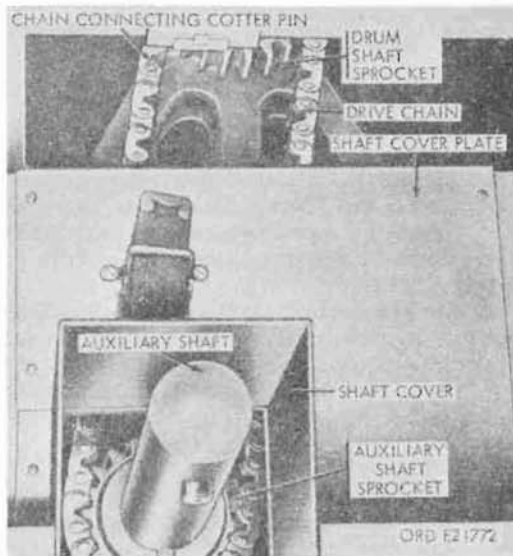

Figure 337. V-17A/MTQ rear winch lower shaft cover and plate, and auxiliary drive chain
with a chain are located in the holders, one between each pair of rear wheels. The roller sheave spindle bars are mounted on brackets in three locations on the truck body, one within the body above the rear winch and two at the rear of the body. A collapsible cable reel is held in stowed position on a holder fastened on the right, within the body. The support legs are secured to the truck by welded mounting brackets and are held in stowed position by chains. The V-17A/MTQ rear winch (fig. 337) is enclosed within the front end of the body and is secured to the truck frame by mounting angles. Both the auxiliary shaft of the winch (mounted to the
a. Rear Winch Cover (Fig. 337)
- (1) Removal. Remove 10 screws holding winch lower shaft cover and cover plate to body, and remove cover and plate. Remove 14 nuts, lockwashers and screws holding winch upper cover side support to inside of body. Remove four nuts, lockwashers, and screws holding winch upper cover front support to body. Remove winch front and upper covers and upper cover supports from body.
- (1) Removal. Remove winch cover (a above). Turn winch drum shaft until chain-connecting long and short pins (fig. 337) are accessible. Remove cotter pin from end of long pin, and remove long and short pins from chain. Remove chain from drum shaft and auxiliary shaft sprockets.
Install auxiliary shaft drive chain around drum shaft and auxiliary shaft sprockets, and secure ends of the chain together with long and short pins (fig. 337). Install cotter pin through end of long pin to hold pin in position. Install winch cover (a above).